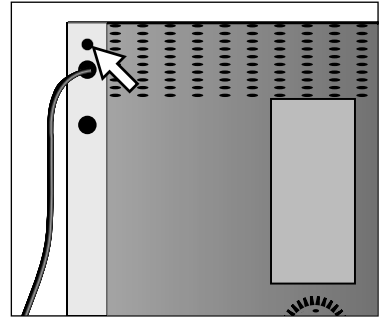

Fig. 23 TB Reset
2. Reset the TB by pressing the red button, located on the rear side of the unit (next to the power cord, see Fig. 23). Press until you hear a „click“ sound.